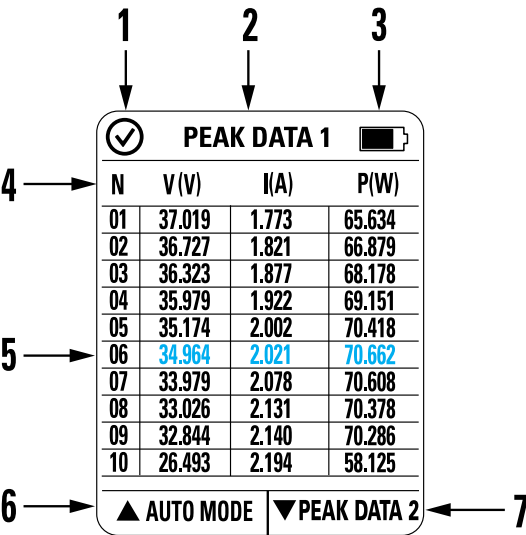

Figure 5.7 Peak Data 1 screen example. To view Peak Data screens 1 and 2, press the down arrow button. Each numbered item in the figure is defined below.
In the Peak Data mode, one test will take thirty (30) readings. The readings are spread across three pages (Peak Data 1, 2, and 3) with ten readings on each page. Use the arrow buttons to step through the pages. See Figure 5.7, below.